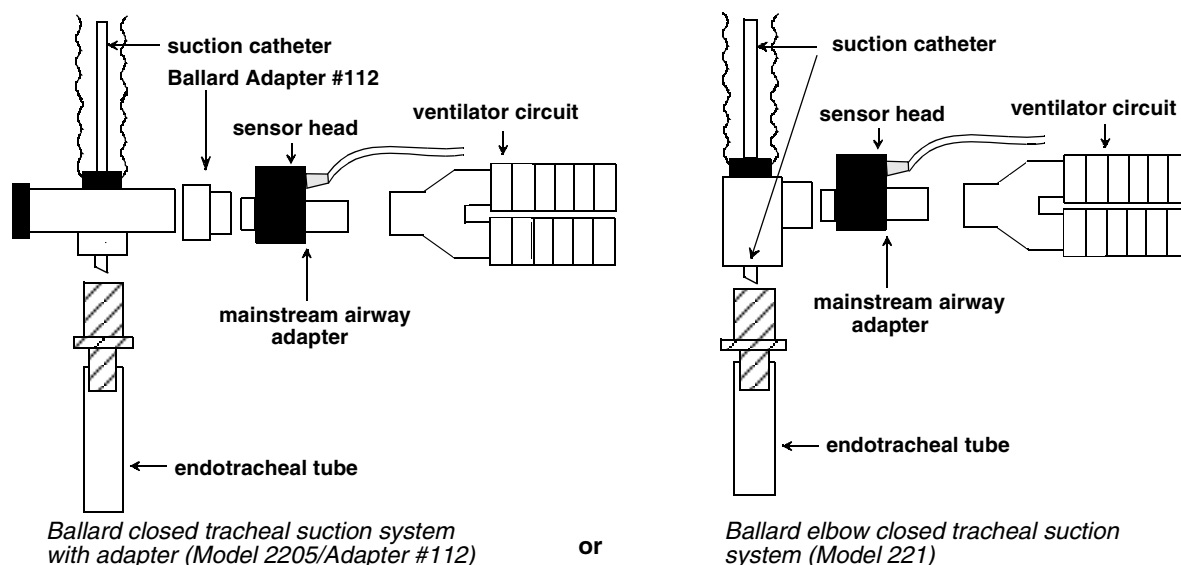

Figure 21-1: Ballard setups
- 9 Insert the airway adapter into the ventilator circuit and Ballard style tracheal suction system (if present) as shown in *Figure 21-1*.
Figure 21-1 shows examples of setups using the Ballard Model #221 and Model 2205 style (with Model 112 adapter). Similar closed systems, such as the Concord Portex (not shown), must be placed in the ventilator circuit in the same positions as shown in *Figure 21-1*.